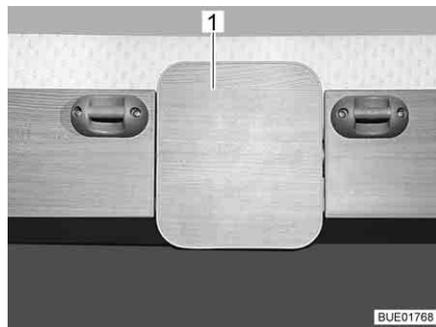
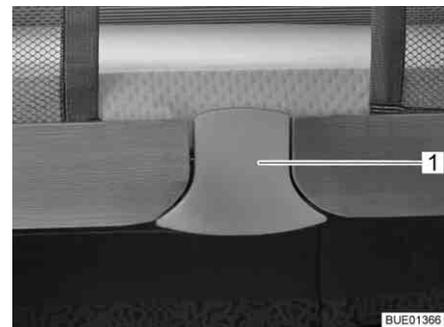

Fig. 86 Release (Premio Plus)
Fig. 87 Release (Averso Plus)
- Pull out the release area (Fig. 86,1 or Fig. 87,1) at the bottom. The lock is released.